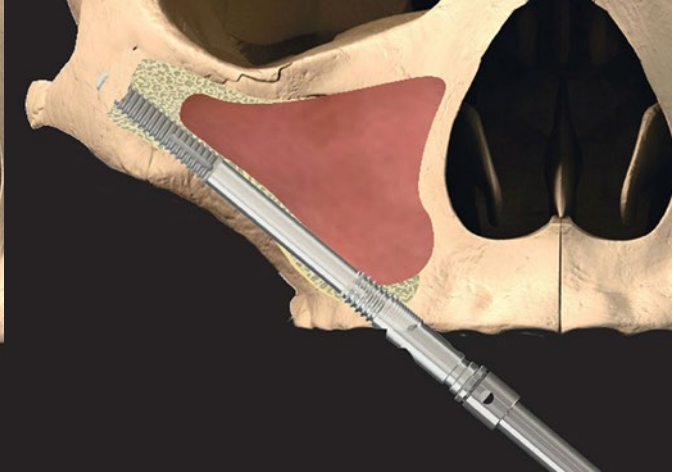

Figure 10
7. Before inserting the implant, ensure that the implant site is free of soft tissue remnants. The handpiece with connector (I-CON-X) is used for the initial insertion of the implant, with the torque control set at 50 Ncm at 15 rpm. Push the Straumann® Zygomatic Implant, ZAGA™ Round (CH-ZT) straight through the alveolar preparation. You will only need to start screwing when the apex reaches the zygoma, thus reducing the insertion time. When the handpiece torques out, switch to the onion driver (I-ZYG-INS-2/ I-IMP-INS-2) (Figure 10).